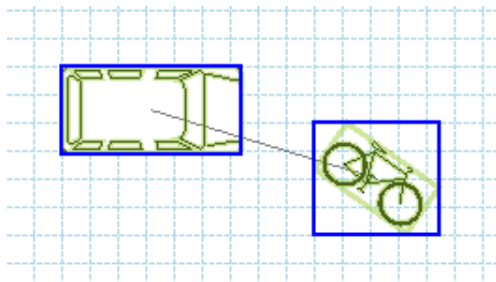

Figure 124. Drag to Second Symbol
3. Drag to the second symbol until a second blue box displays, as shown in Figure 124. When the mouse button is released, the connecting line displays.